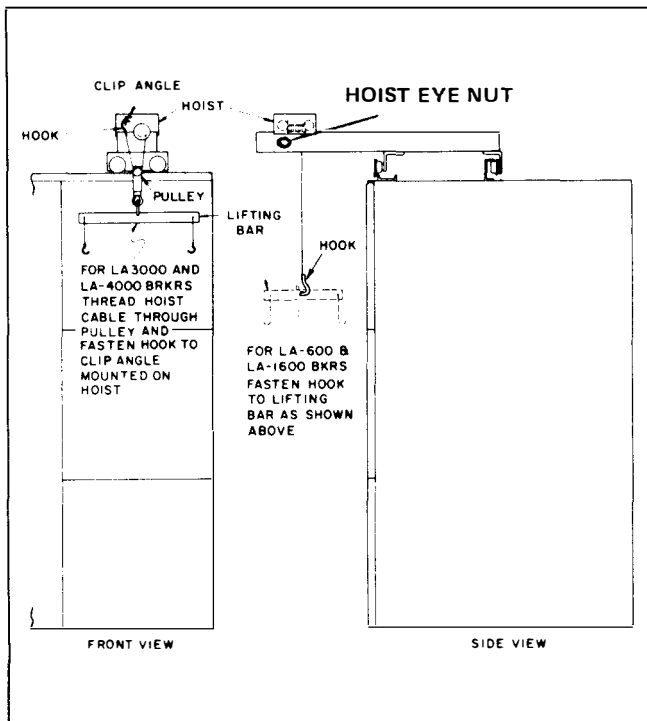
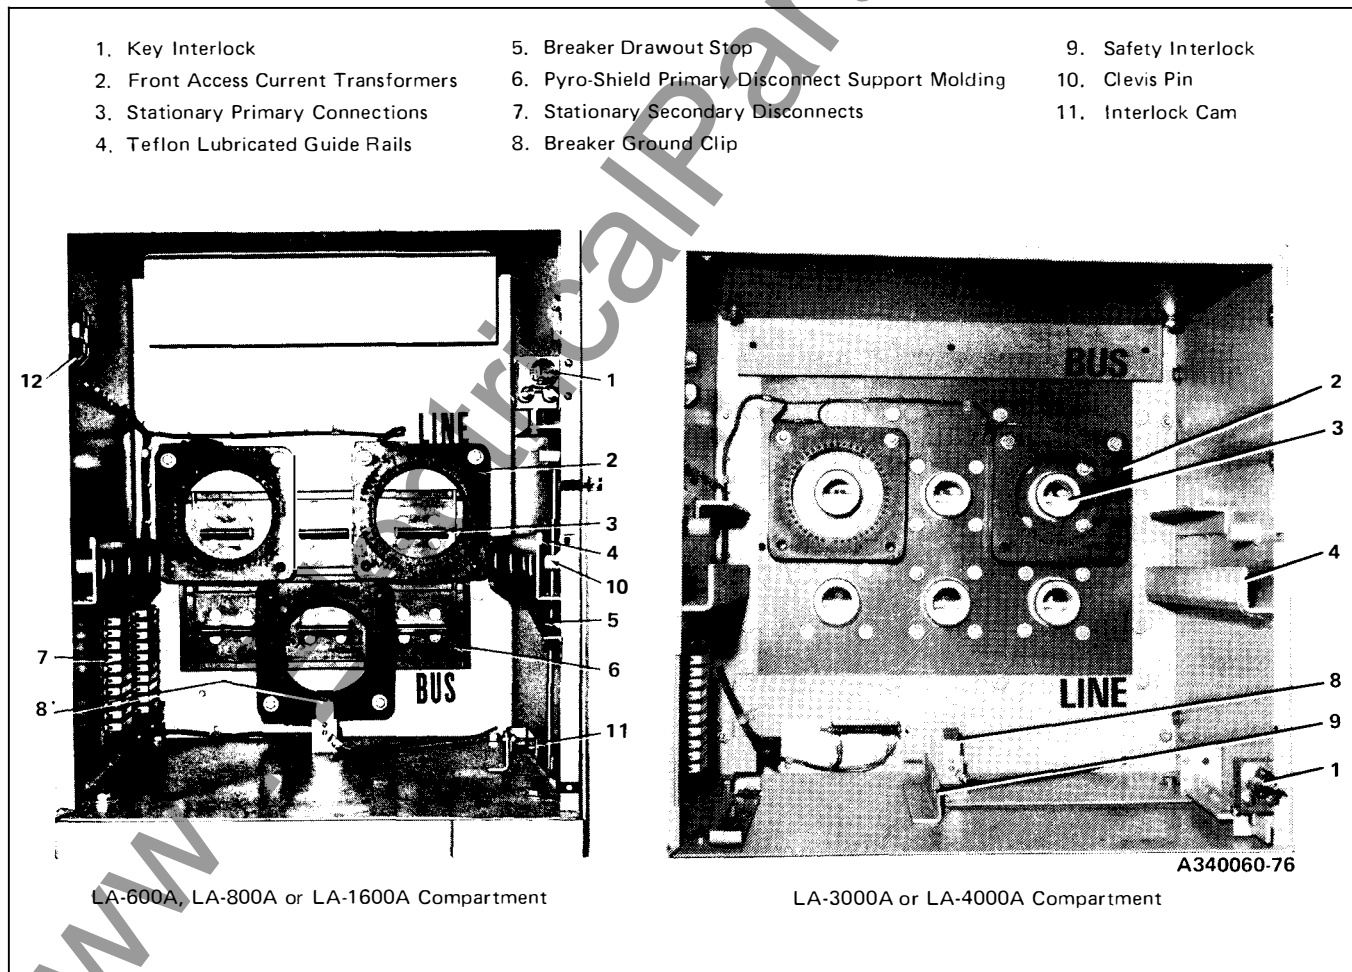
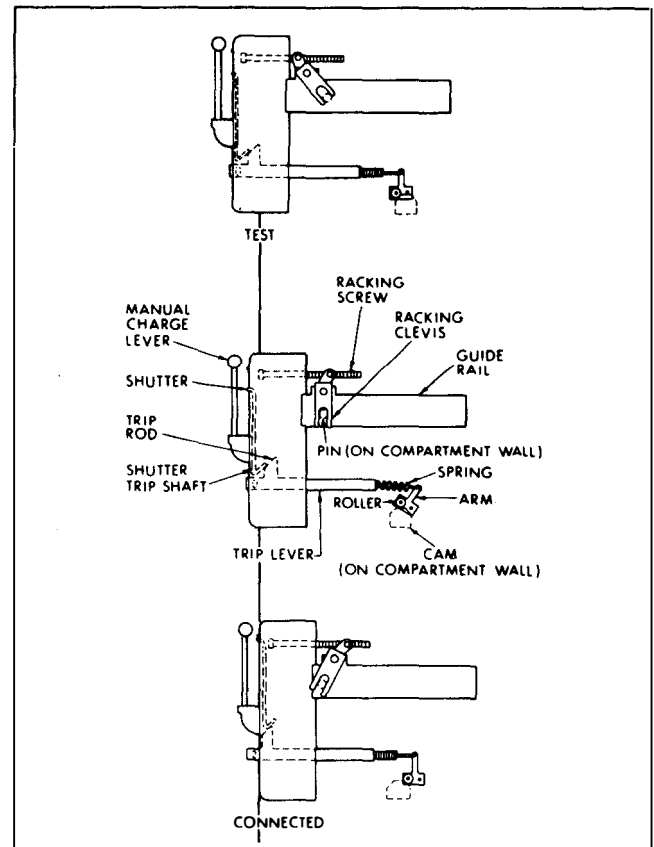

Figure 29. — Breaker Hitching Instructions
Figure 30. — Circuit Breaker Compartments
Figure 32. — Circuit Breaker Positioning Diagram
Current transformers for metering are generally mounted on the stationary primary disconnect studs and are readily accessible for inspection and replacement (see figure 30). In some applications they must be located in the bus compartment.
Place the circuit breaker in front of the cubicle and attach the lifting yoke (furnished with accessories) to the lifting holes provided on the circuit breaker. Then connect the hook from the hoist to the yoke (Fig. 29). Insert crank in the hoist eye-nut. Turn the crank to raise the breaker into position with rails (View A, 4, figure 30). Align breaker and compartment guide rails so the breaker will slide freely. With the breaker in position on the compartment guide rails, use the following sequence to rack the breaker in the CONNECTED position.
2. With racking crank (furnished with accessories), rotate racking screw to move racking clevises to the position shown in figure 32 where they will engage with pins (10, figure 30) on the compartment rails.
3. The breaker should now be pushed along the rails to the DISCONNECTED position. At the same time racking clevises should be checked to see that they are in correct alignment with pins on the compartment rails. (See figures 30 and 32). Counterclockwise rotation of the racking crank will now move the breaker into the TEST and CONNECTED positions. At TEST and CONNECTED positions, interlock is in its normal horizontal position. By removing racking crank and then raising interlock slide, trip rod returns to its extended position, permitting trip shaft to reset and the breaker may be operated. Between TEST and CONNECTED positions, an interlock cam (11, figure 30) mounted on the com-
partment floor, raises the interlock in the breaker. The trip rod and trip shaft are held in the TRIP FREE position so the breaker cannot be closed, even if the interlock slide is raised (see figure 32). This prevents movement of a closed breaker into or out of the CONNECTED position.
4. The procedure is the same for withdrawing the breaker from the CONNECTED position, except the racking crank is turned clockwise. A breaker drawout stop (5, figure 30) angle, mounted on the right hand side below compartment rail, prevents accidental removal of the breaker from the compartment. The angle must be raised to remove breaker from the compartment.
Attach lifting yoke (furnished with accessories) to lifting holes provided on the circuit breaker. Then thread the hoist hook through the pulley on lifting yoke and attach to angle mounted on hoist (fig. 29). Insert hoist crank in the hoist eye nut and turn the hoist crank to raise the breaker to the level of the extension rails and check wheel alignment. (The hoist is optional for indoor switchgear.)
The secondary disconnect (7, figure 29) mounted on the left hand side of the breaker compartment, contains all the electrical control circuit connections for the circuit
#### Ground Clip (See 8, figure 29)